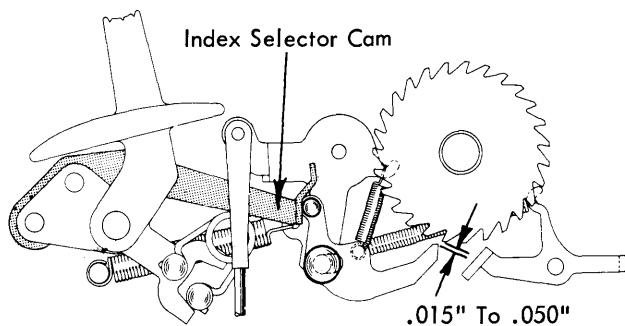

FIGURE 154. Index Selection Cam Adjustment
- a. (24 or 27 tooth ratchets) With the index cam latched at rest and the selection lever in the double line space position, adjust the selection cam front to rear so that the index pawl clears the platen ratchet by .015" to .050" (Fig. 154).